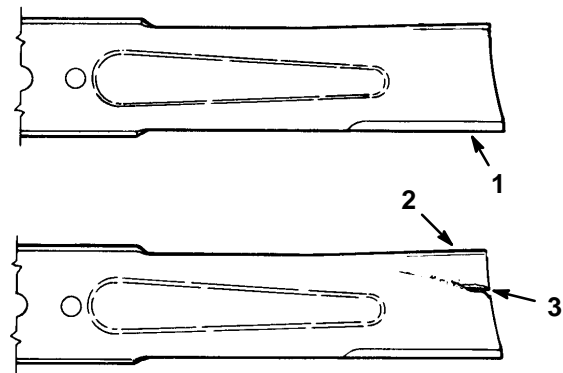

Figure 35
2. Inspect the cutting edges (Fig. 35). If the edges are not sharp or have nicks, remove the blade(s) and sharpen them; refer to Sharpening the Blade(s), page 35.
3. Inspect the blade(s), especially the curved area (Fig. 35). If you notice any damage, wear, or a slot forming in this area (Fig. 35), immediately install a new blade.